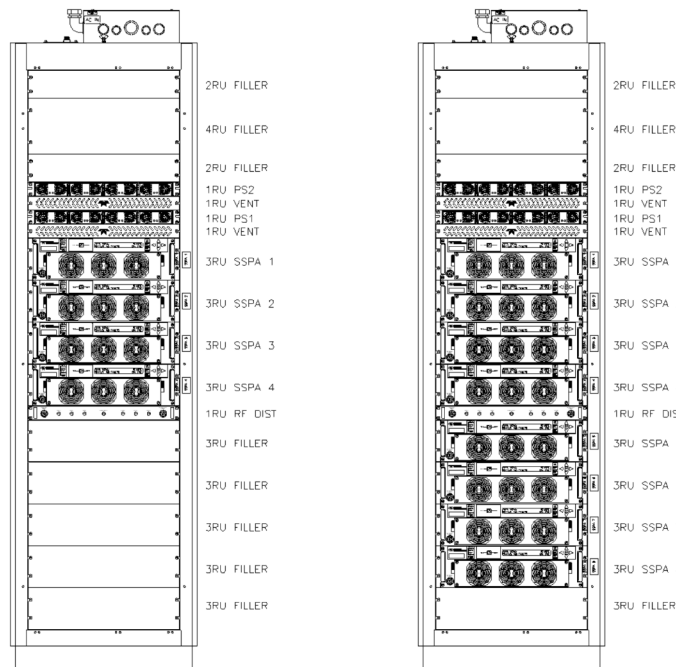

Figure 1: 4- and 8-Module PowerMAX System Configurations
The basic PowerMAX system consists of four (4) or eight (8) SSPA Chassis, one (1) to four (4) N+1 Power Supply Chassis, and an RF Distribution Panel. See Figure 1, left, for the 4-module configuration; or Figure 1, right, for the 8-module set-up. / 16-module configuration sets two 8-module PowerMAX systems side-by-side, with an additional waveguide combining array between them.